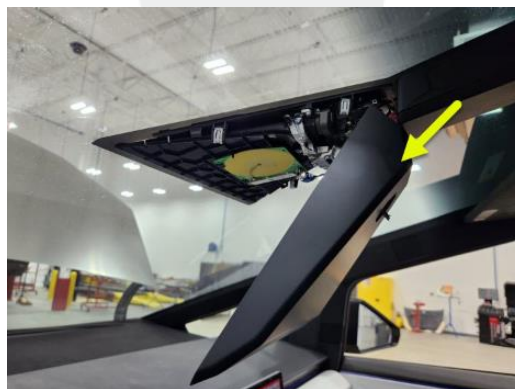

Figure 2
5. Let the rear view mirror beauty cover hang from the electrical harness (Figure 2).